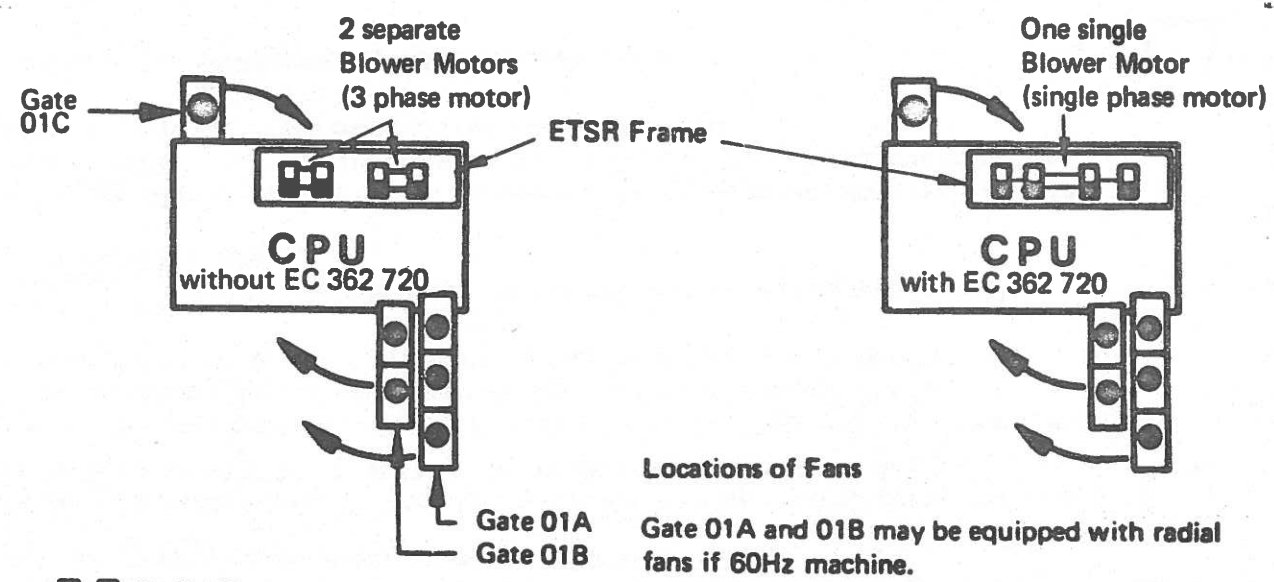

FIGURE 10-110-A
- 3 Check that all fans blow upwards in the CPU and in the operator console. Locations of fans are shown in figure 10-110-A. Check also the direction of printer chain rotation.